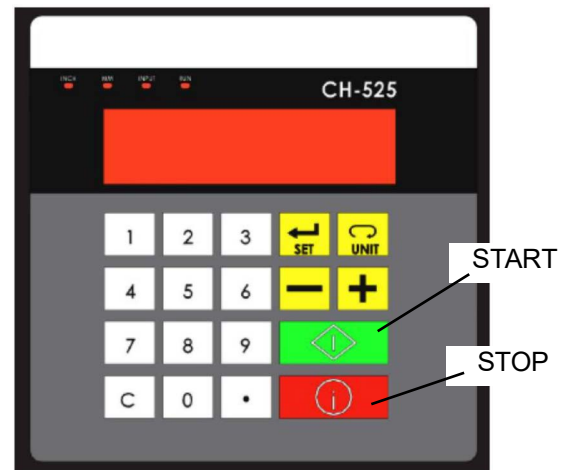

FIG. 4-6
1. Press and release "SET" button to display "0". See FIG. 4-6